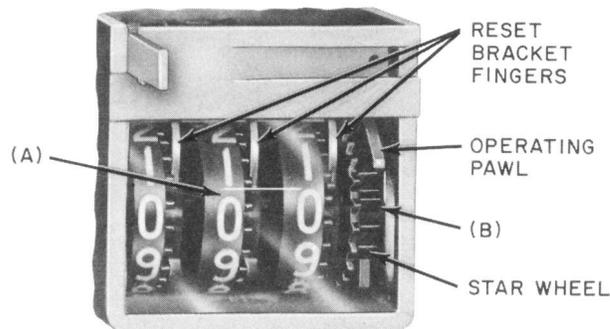

Fig. 2—Zero Alignment With Number Wheels Held in Reset Position
- (b) **Fig. 2 (a)**—With the number wheels held in the reset position by the reset bracket fingers, the top of any zero shall not be out of alignment with the top of any other zero by more than one-half the thickness of the line forming the zero.
- (a) **Fig. 2 (B)**—With the endplay in the number wheels taken up to the left and the endplay in the armature taken up to the right, the projection, if any, of the operating pawl over the side of the star wheel shall be